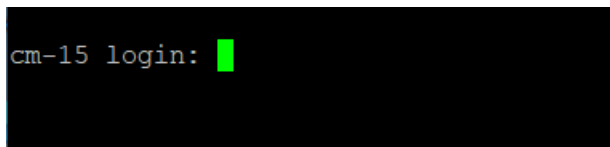

Figure 5.16. RPi CM5 Login Screen
- After opening serial port connection, there must be a blank screen only. Press **Enter** to send a character and the login prompt is displayed as shown in Figure 5.16.